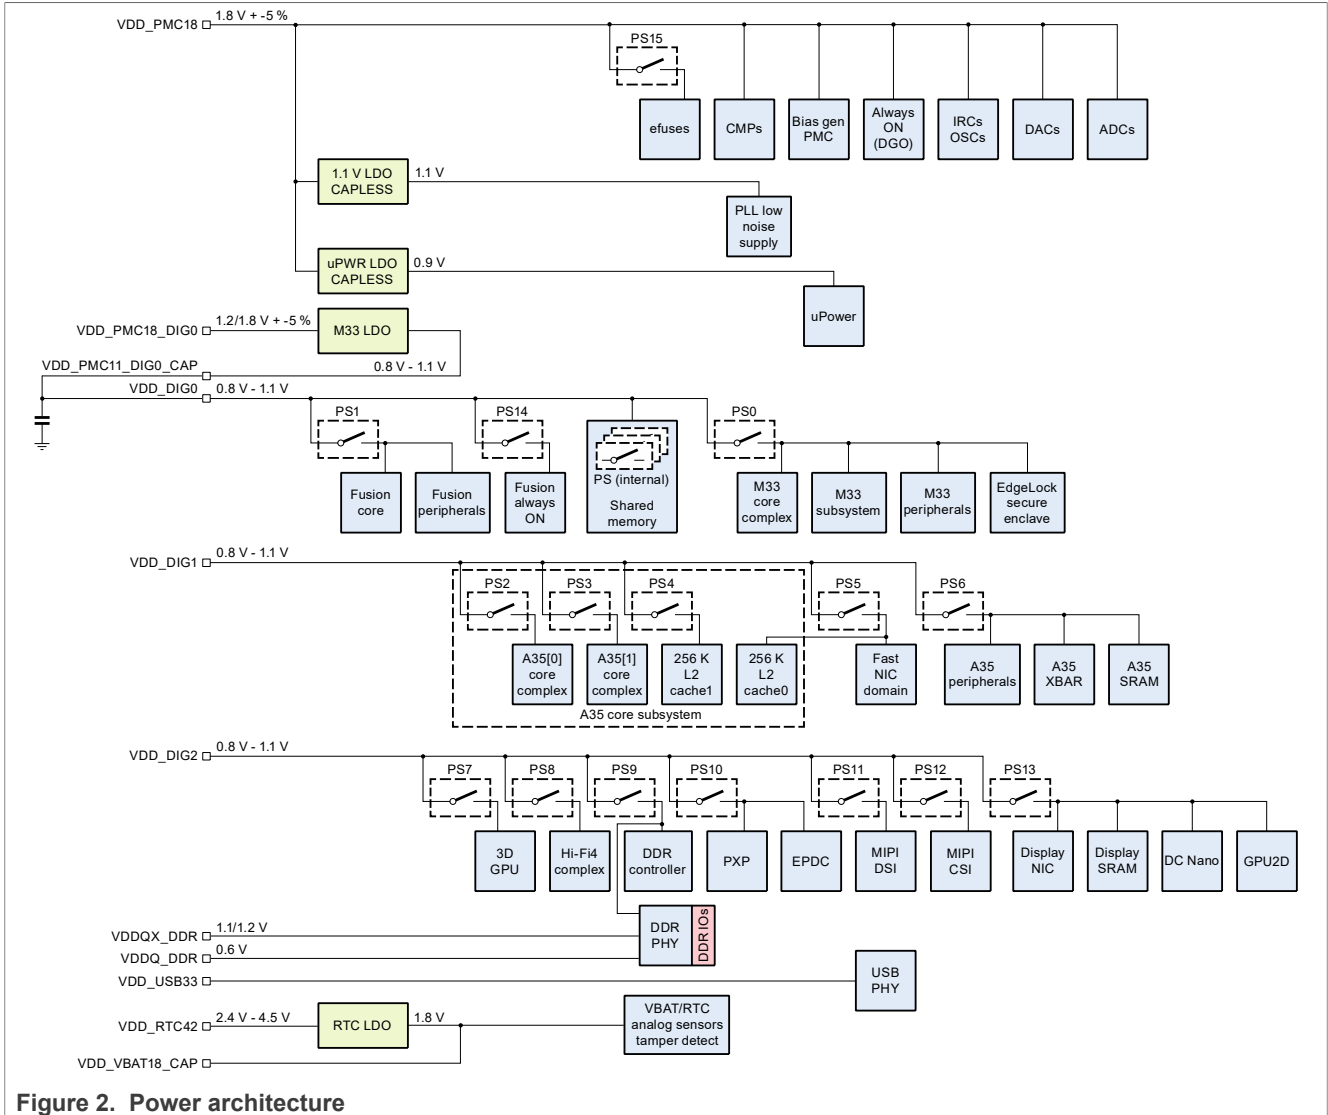

Figure 2. Power architecture
Different domains have separate power supplies (power rails), see Figure 2 for i.MX 8ULP power scheme. There are 18 x Power Switches (PS) for SoC internal IP modules. These modules can be turned ON/OFF by software, through uPower FW API, for precise power control.